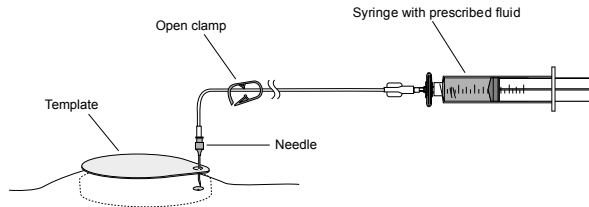

Figure 12. Open clamp and inject into catheter access port.
4. Open the clamp and inject directly at an infusion rate not greater than 5 mL per minute (Figure 12).